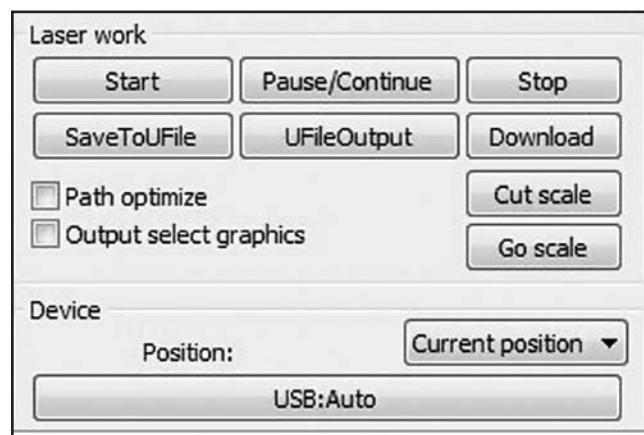

Figure 36. Output panel controls.
9. Verify "Device" setting of output panel (located in bottom section of control panel) is set to "USB:Auto" (see **Figure 36**)
11. Select "SaveToUFile" (see **Figure 36**), navigate to USB flash drive, and select "Save."